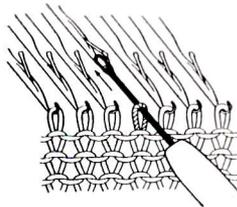

Fig. 24
- c. With the eye of the transfer tool on the hook of the needle, push the needle all the way back until the stitch is transferred onto tool. (See Fig. 24)